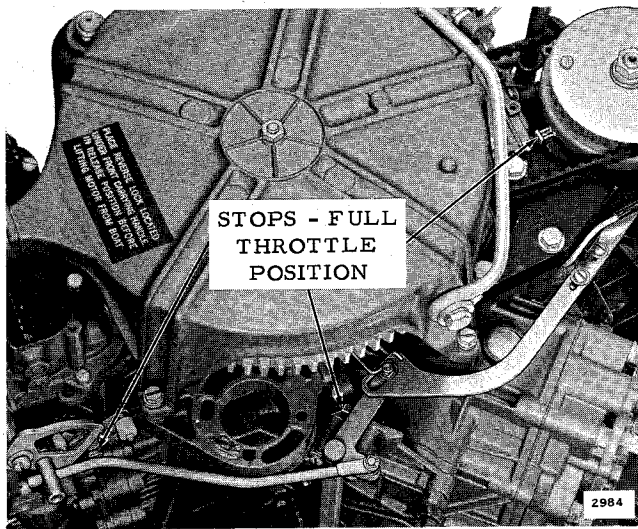

Figure 4-29. Full Throttle Position
g. Remove gage and work throttle to be certain that the arm is opening full against its stop on the carburetor. The carburetor and magneto linkage are correctly synchronized when the throttle control shaft and the throttle arm reach their full open positions at the same time, and the magneto reaches full advance position as described above. See Figure 4-29.